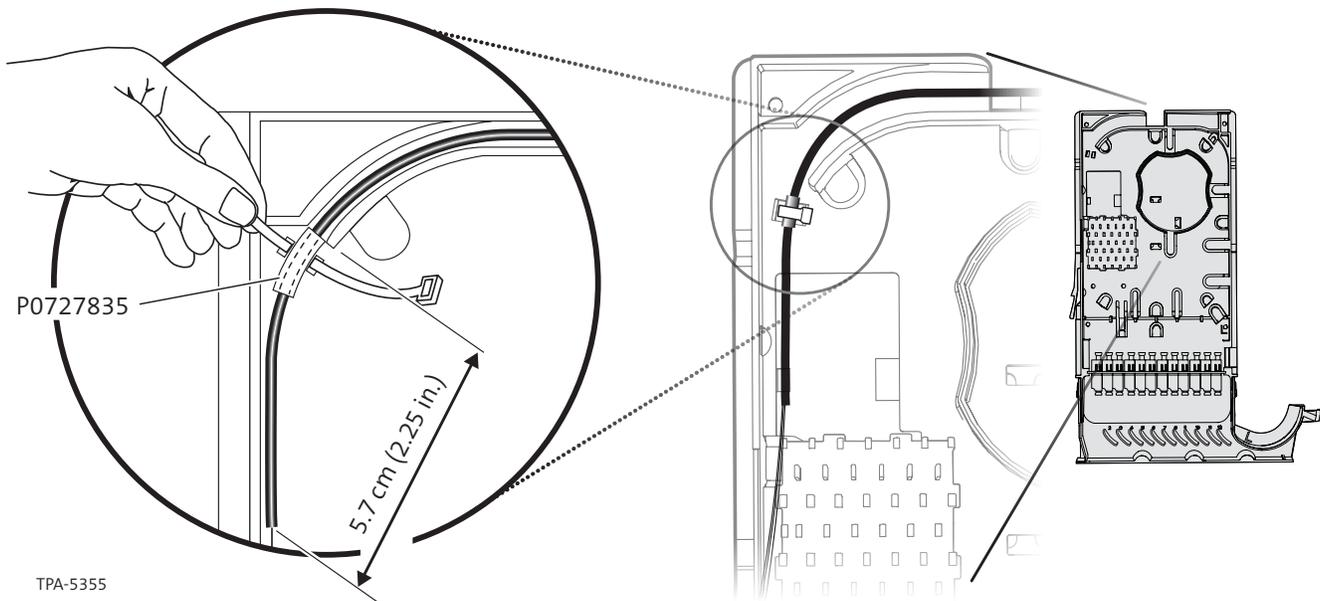

Figure 31
Step 1: Fasten the end of one tube inside the module (Figure 31).